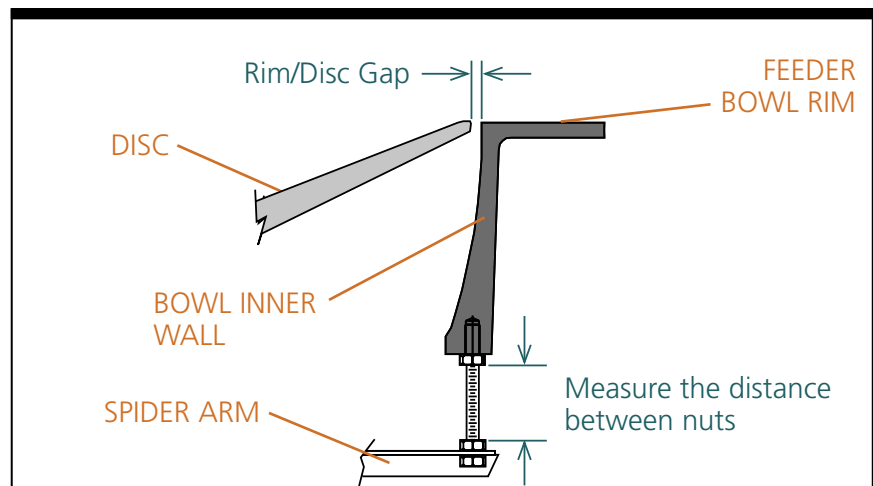

Figure 5-1. Measuring Bowl Gap When Replacing Standard Bowl
- If machining enlarges the inner diameter of the bowl, you may need to replace the disc with a larger one (custom-sized) from your direct supplier. If you do not obtain a larger disc, the gap between the disc and the inner diameter of the bowl may pinch or snag product (see Figure 5-1).
**Step 1—Measuring and Removing the Bowl.** Measure the height between the bottom of the bowl, and the top of the spider arm (where the threaded rod connects the two parts - see Figure 5-1). Loosen and remove the bottom nut on the spider arm (on each of the eight (8) arms) and remove the bowl - pulling it up and away from the feeder.